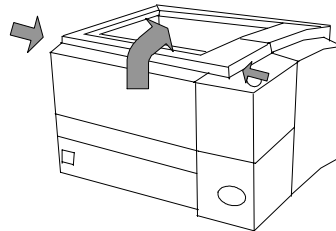

Figure 11. Opening The Printer's Top Cover
1. Open the printer's top cover as shown in Figure 11.